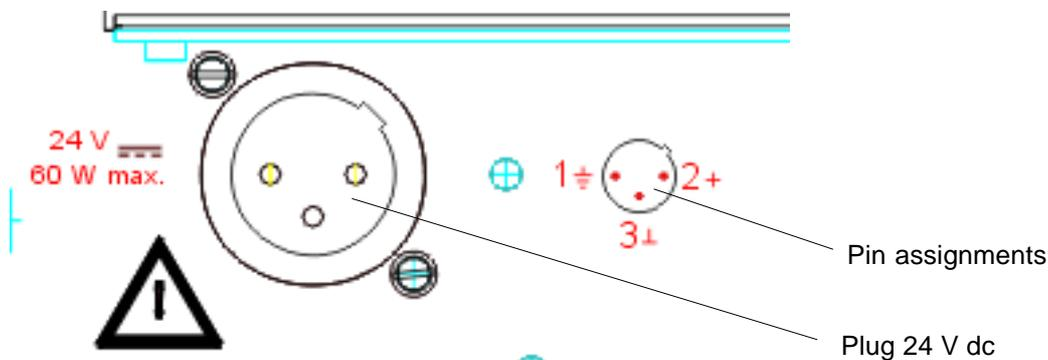

Fig. 6-1: BINOS E, Rear panel, Voltage supply
- Connect power supply and BINOS E (Fig. 6-1, Plug 24 V DC).